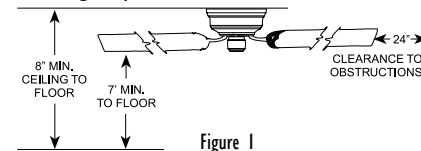

Figure 1
2. Installation hardware is included for a standard drywall or plaster ceiling. You will need a 4" x 1-1/2" or a 4" x 1/2" outlet box and wire nuts (2) which can be purchased from any hardware store or electrical supply house.
3. The fan blades must be mounted at least 7' above the floor. For maximum efficiency, they should not have any obstruction (walls, posts, etc.) within 24" of the blade tips. See Figure 1 for mounting distances.